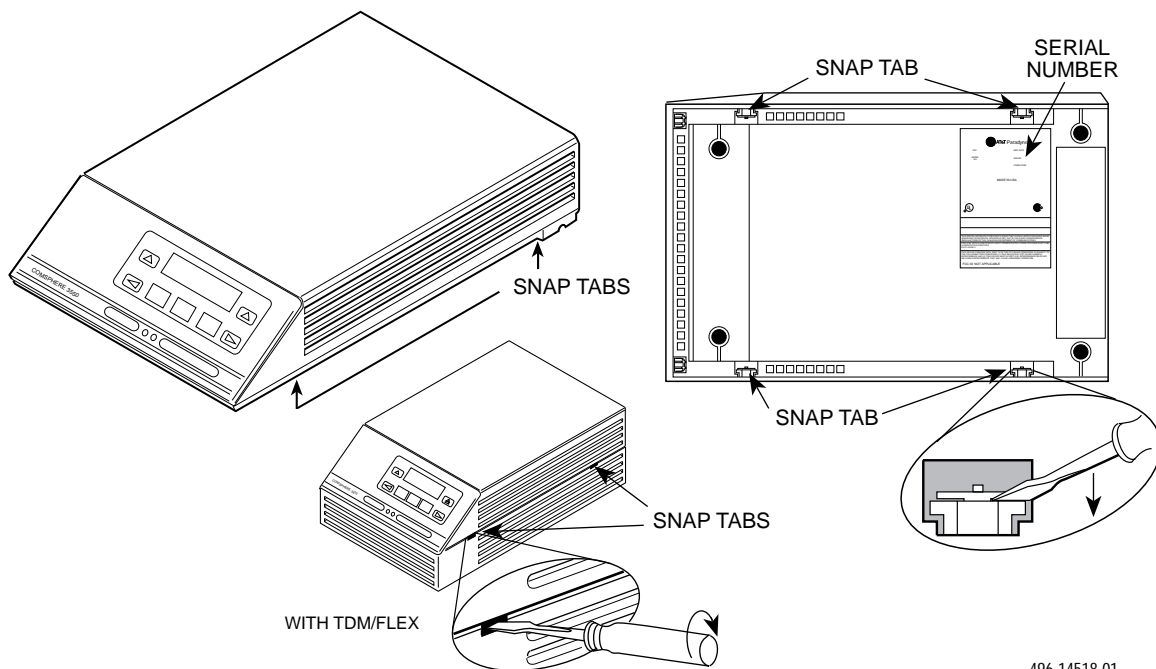

Figure 2. Opening the DSU
Refer to Figure 2 as you follow these steps.
6. Write the serial number from the existing base onto the new TDM/Flex expanded base using indelible ink (see Figure 2). Discard the existing base and rear panel.